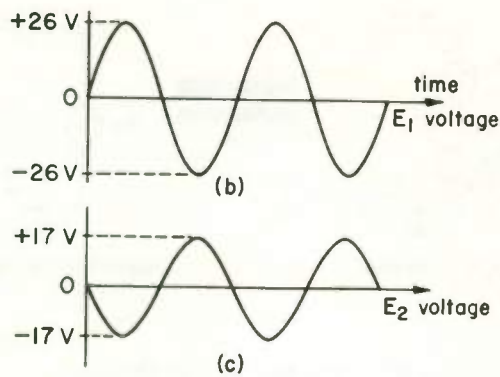

Fig. 12
6. See Fig. 12 . . . The polarities show that the two voltages are 180° out of phase.